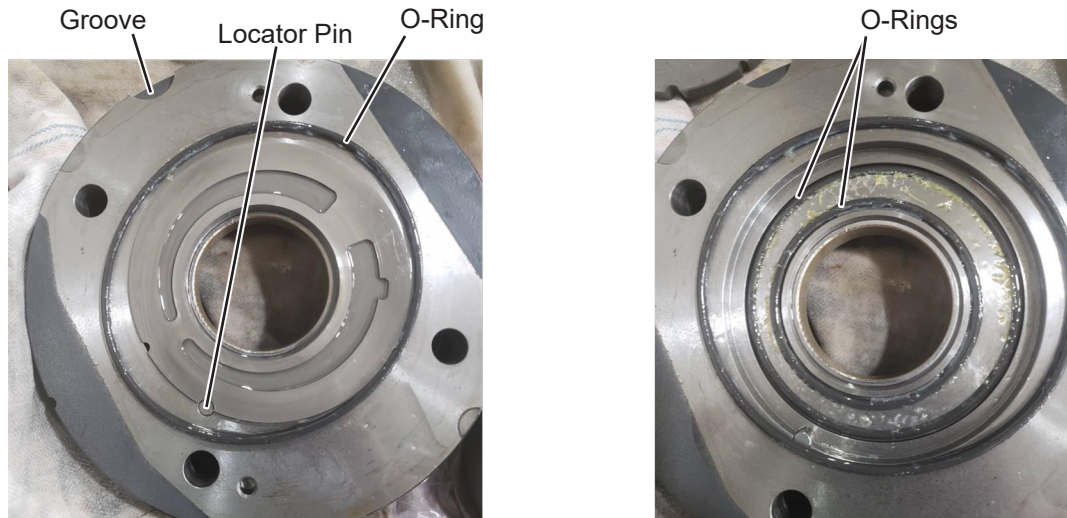

Figure 7
25. If main pump rear plate was accidentally removed from center of adapter plate make sure 2 small O-rings are correctly installed. See Figure 7.
26. Make sure O-ring is installed in adapter plate. See Figure 7.
27. Reinstall adapter plate with groove/cutout to the top, and any locator pins and washers removed in Step 10. See Figure 7.